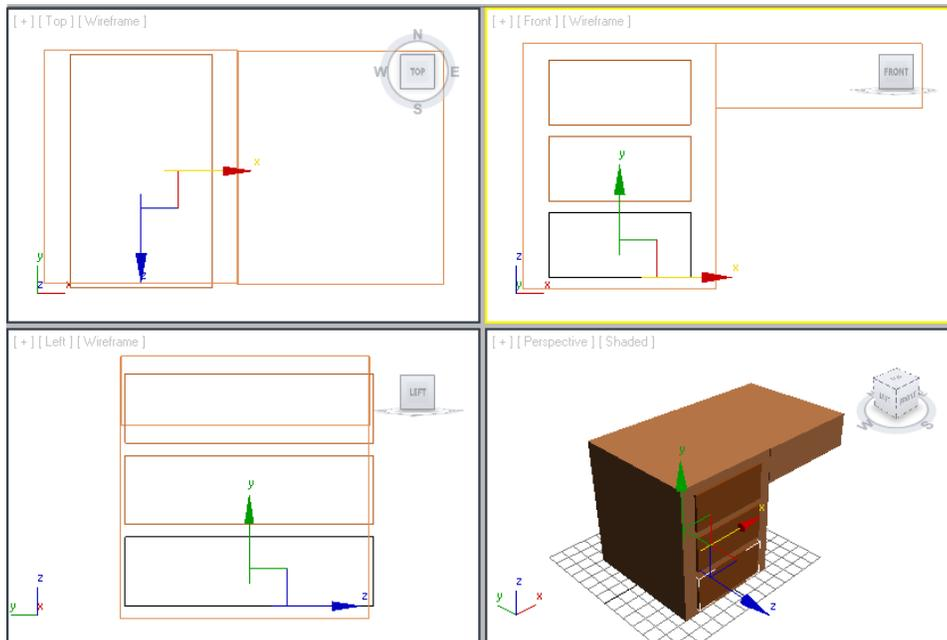

Figure 2-45 The *drawer002* and *drawer003* created after cloning the *drawer001*
2. Make sure the **Copy** radio button is selected in the **Object** area of the **Clone Options** dialog box. In the **Number of Copies** spinner, enter **2** to create two copies of the *drawer001*. Then, choose the **OK** button; two drawers with same dimensions are created, as shown in Figure 2-45.